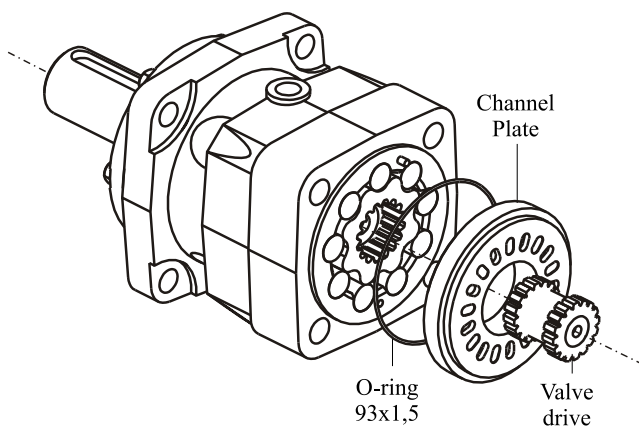

Fig.2
5. Separate Channel Plate from Roll-gerotor set and remove Valve Drive (see Fig.2).